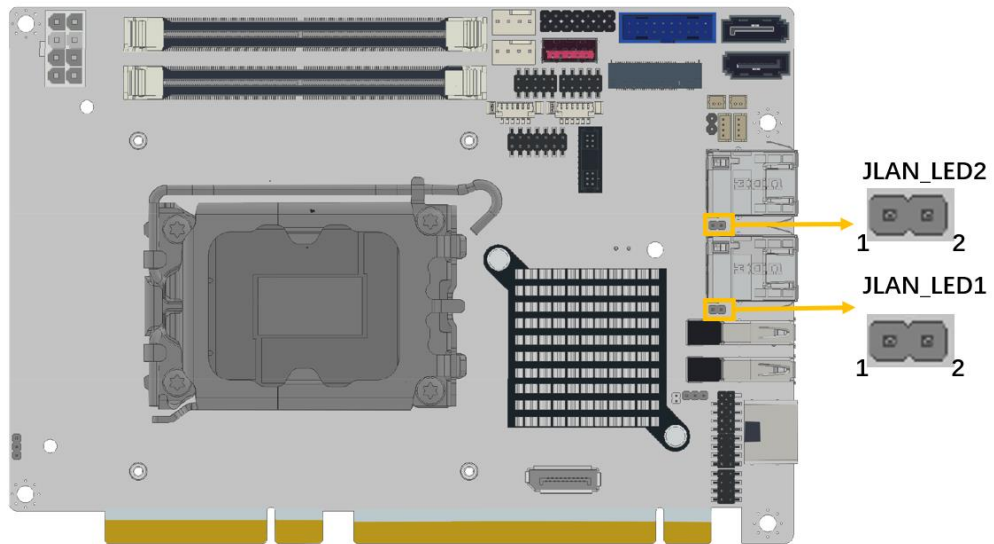

Figure 3-18: LAN LED Connector Locations
- CN Location:** See Figure 3-18